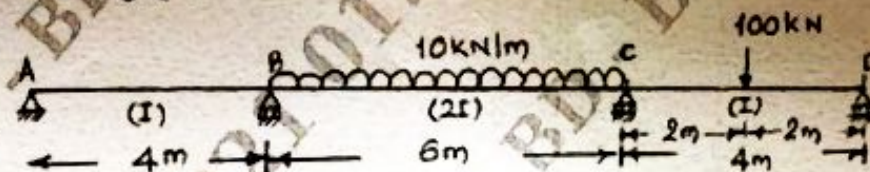

Fig.Q7
- 7 Analyze the continuous beam by using flexibility matrix method. Draw BMD, SFD and elastic curve. Refer Fig.Q7.